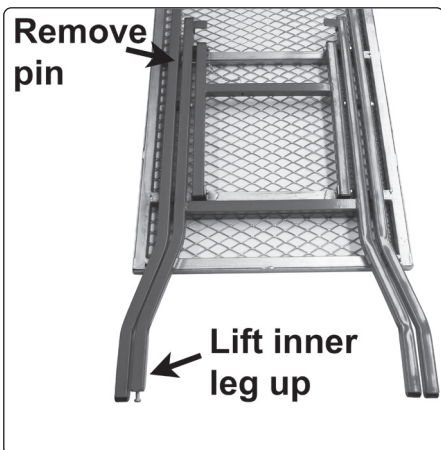

fig.1
- 4.1. Lay table upside down on floor. Remove leg securing pin, (see fig.1).